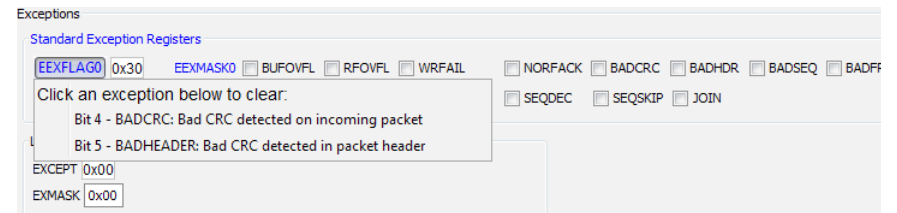

Figure 23: The Master Development System Software Exception Flags
- The EEXFLAG0 and EEXFLAG1 boxes show the current value for the flags. 0x00 means no exceptions were detected. A non-zero value means an exception flag is set. Clicking on the box opens a menu showing which flags are set. Clicking on the flag clears it (Figure 23).